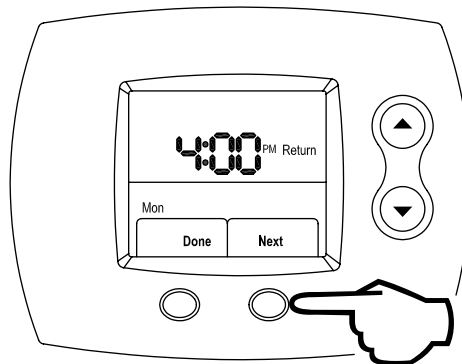

Figure 91
Step 17: Press the **RIGHT** (Next) button to lock in the Return period start time, which is shown in Figure 91.